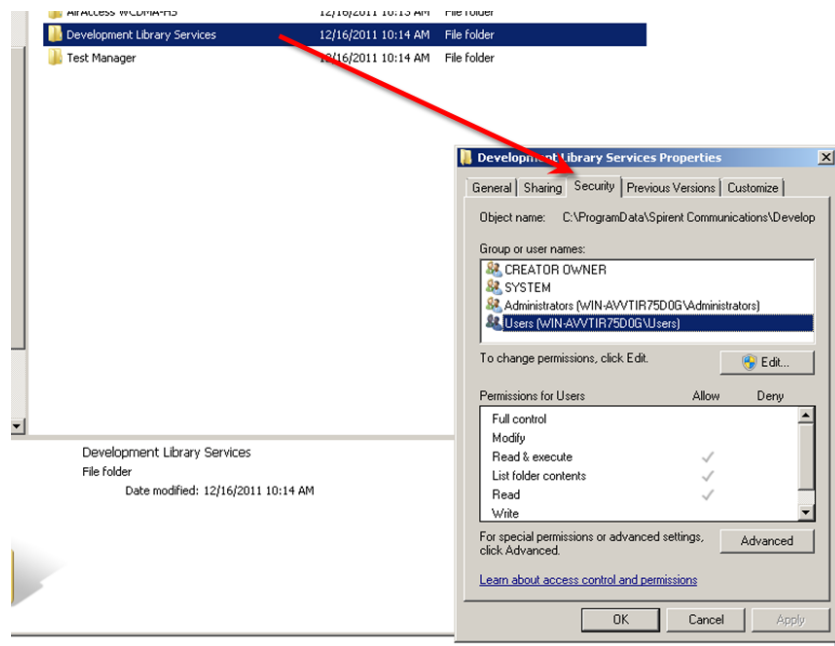

Figure 2-17: Properties Window – User Permissions
3. Select the **Users** group to view the Permissions, as shown in Figure 2-17.